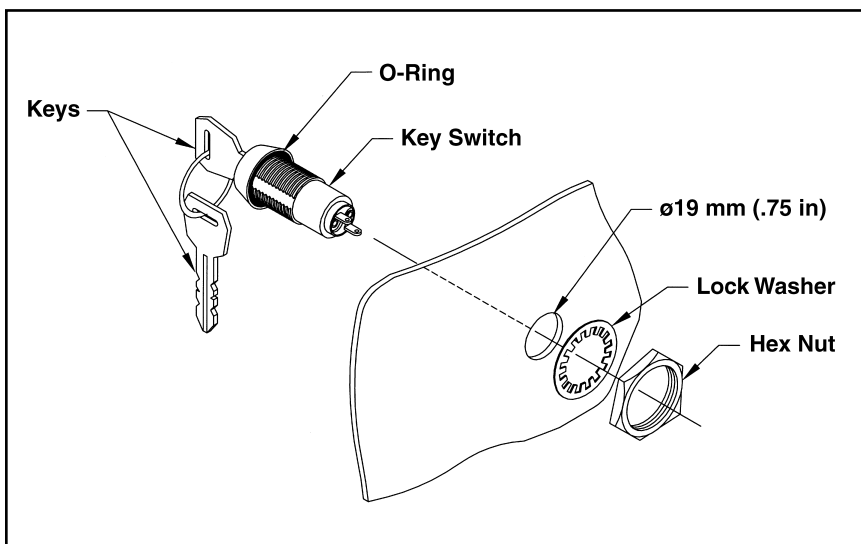

Figure 19. Mounting the Dual MINI-SCREEN key reset switch
The key reset switch mounts through a 19 mm (0.75") diameter hole (see Figure 19). Wires for connecting the key reset switch to the control module are user-supplied (also see Section 3.5.1).
*The key reset switch (supplied with the control module) must be positioned at a location that provides the switch operator with an unobstructed view of the entire defined area.* The switch mounts through a 19 mm (0.75") diameter hole (Figure 19).